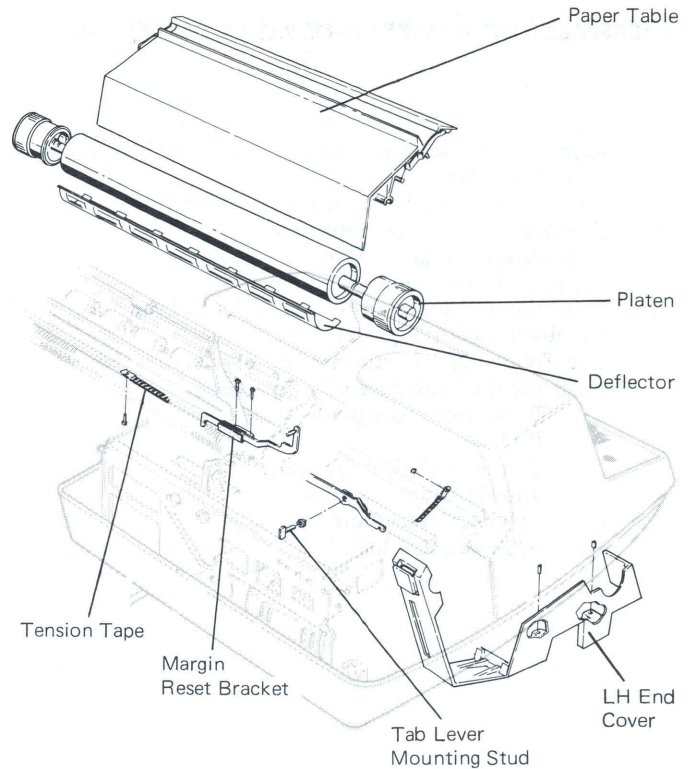

Figure 16 – Tab Lever Removal
2. Remove the platen, deflector, left end cover and margin reset lever (Figure 16).